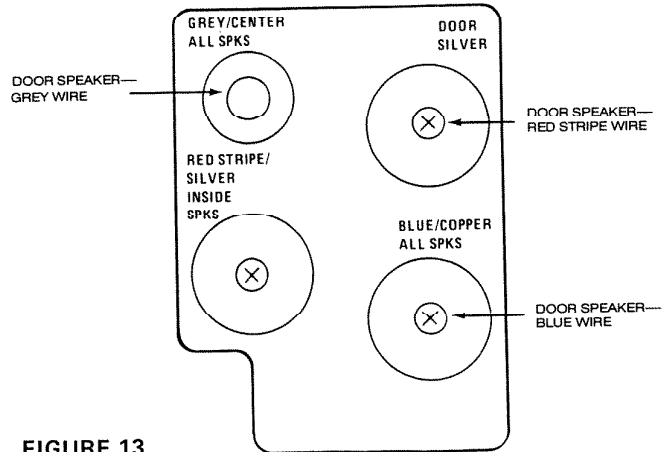

FIGURE 13
1. Connect **RED STRIPE** wire from door speaker to terminal screw marked **DOOR SILVER** on the master unit's terminal board. See Figure 13:
2. Connect **GREY** wire from door speaker to binding post marked **GREY/CENTER** on master unit's terminal board. See Figure 13.
3. Connect **BLUE** wire from door speaker to terminal screw marked **BLUE/COPPER** on master unit's terminal board. See Figure 13.